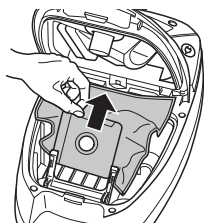

Fig.19
3. Pull the dust filter bag up and out of the dust filter holder (Fig. 19).